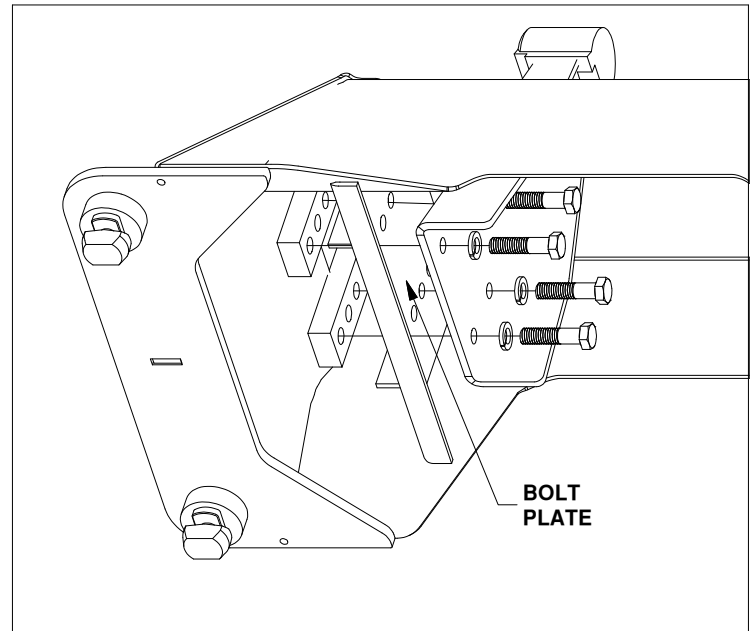

FIGURE A2: Passenger pivot arm mounting location.
- Locate both pivot arms, the four threaded blocks, eight 1/2" cap screws, and eight 1/2" split lock washers. Place the lock washers over the cap screws. Align the flat side of the pivot arm flat against the bolt plate and install four 1/2" cap screws through the holes on the arm, holding the arm in place, as shown in Figure A2. Locate the threaded blocks. Note that the sides of the block have threaded holes on one side and smooth bored holes on the other side. When installing the threaded blocks it is critical that the side with the smooth holes is flat against the bolt plate when installed. It is also critical that each of the five holes in the threaded block match up with the five vertical holes in the bolt plate. Pass the threaded block under the bases side and align the block with each set of screws and start each screw, as shown in Figure A2. After all the screws are started through the arms, torque each bolt to 80 ft-lbs.